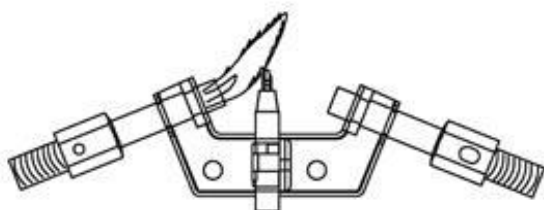

Figure 15 -Correct Pilot Flame Pattern
2. Inspect pilot flame and refer to Figure 15 and 16.
- Figure 15 shows a correct pilot flame pattern.